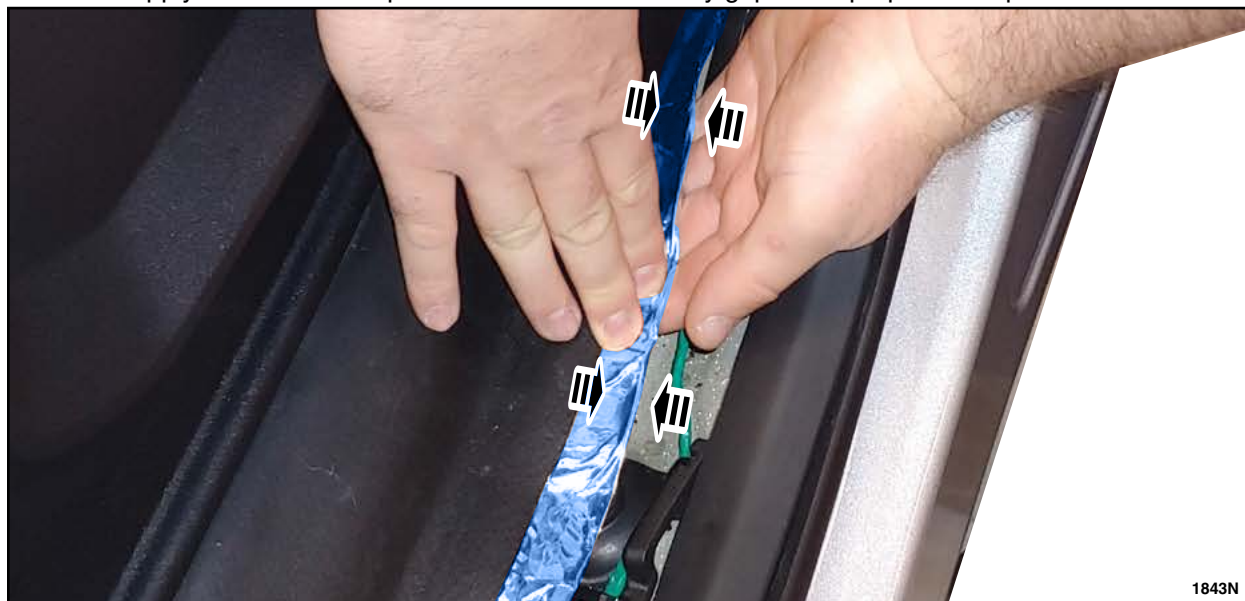

FIGURE 6
8. Using hand pressure, pinch / crimp both sides of the applied foil tape to ensure positive adhesion with no exposed insulation. See Figure 6.